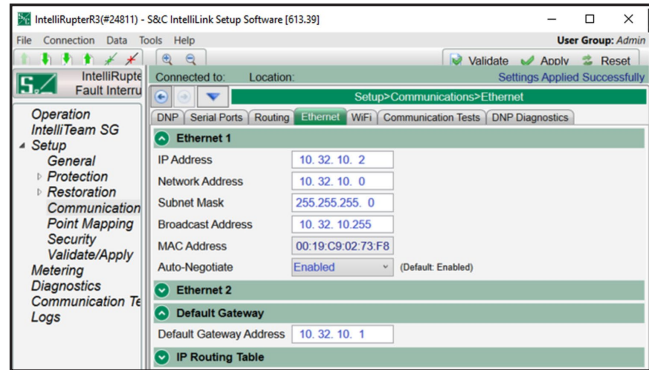

Figure 20. The *Setup>Communications>Ethernet* screen.
- STEP 6.** Determine what IP address, subnet mask, and default gateway address the IntelliRupter fault interrupter control is using by going to the IntelliLink® Setup Software *Setup> Communications>Ethernet* screen. See Figure 20.